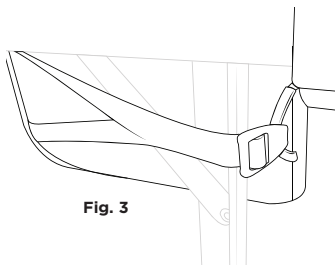

Fig. 3
- d. Wrap the elastic strap on the back of the pad around a support of the back rail of the ladder and secure the clip around the white cord. [fig. 3]